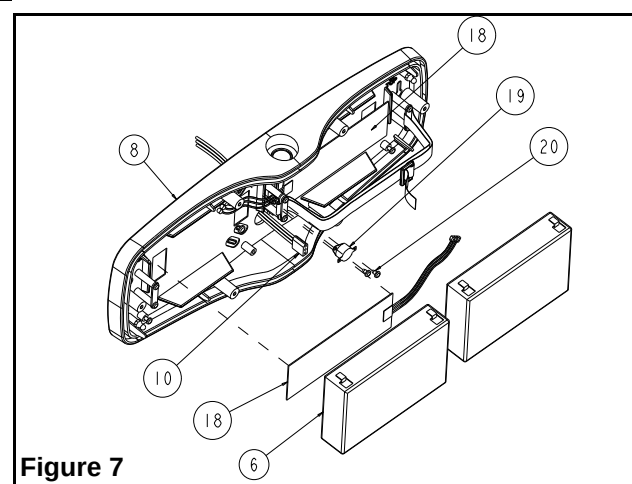

Figure 7
- a. Connect battery heater (18) to thermostat (19) and to AC harness (10) (see figure 7).